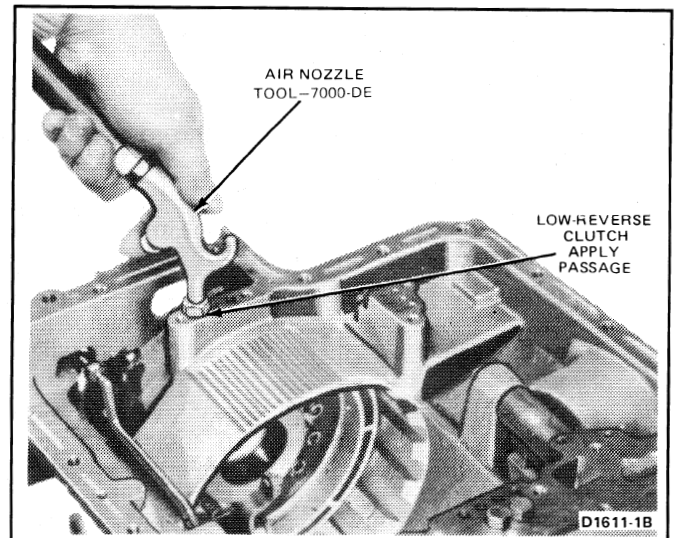

FIG. 24 Removing Low-Reverse Clutch Piston
23. Remove the low-reverse clutch piston from the case using TOOL-7000-DE as shown in Fig. 24.